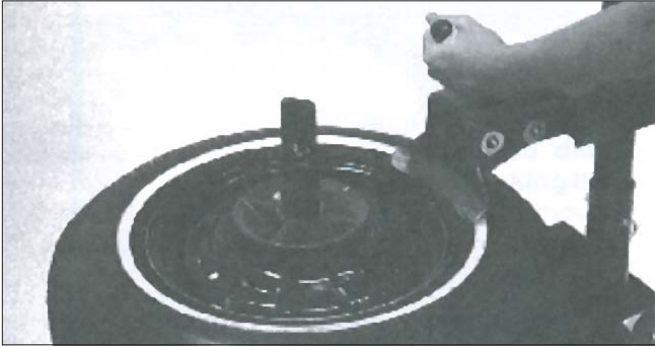

Figure 4 - Positioning the Upper Bead Loosener Shoe
**6.** Place the upper bead loosener shoe on the tire next to, but not on, the rim (fig. 4). Press down on the foot pedal until both bead looseners complete their full stroke. If the top bead is not completely loosened, release the foot pedal until the unit has completed the full return stroke and press the foot pedal again. The ratchet effect on the loosener will deliver a deeper stroke. The repeat cycle is used only if the upper bead is not loosened.